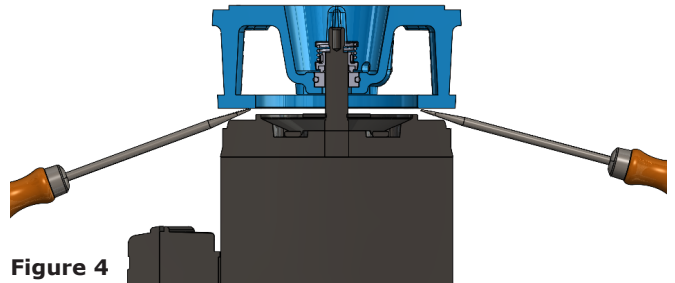

Figure 4
11. Remove bolts holding adapter to motor. Lightly tap the adapter from side to side away from the motor using a rawhide or hard rubber hammer to achieve a large enough gap to insert screwdrivers between the adapter face and the motor face. Using two screwdrivers 180 degrees apart, evenly pry the adapter with the seal assembly away from the motor until rotary seal is free of motor shaft. Be careful not to insert screwdrivers too far to prevent contacting and damaging the motor shaft. (Figure 4)